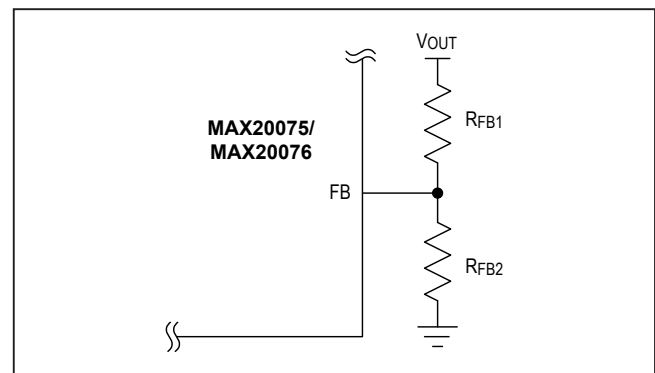
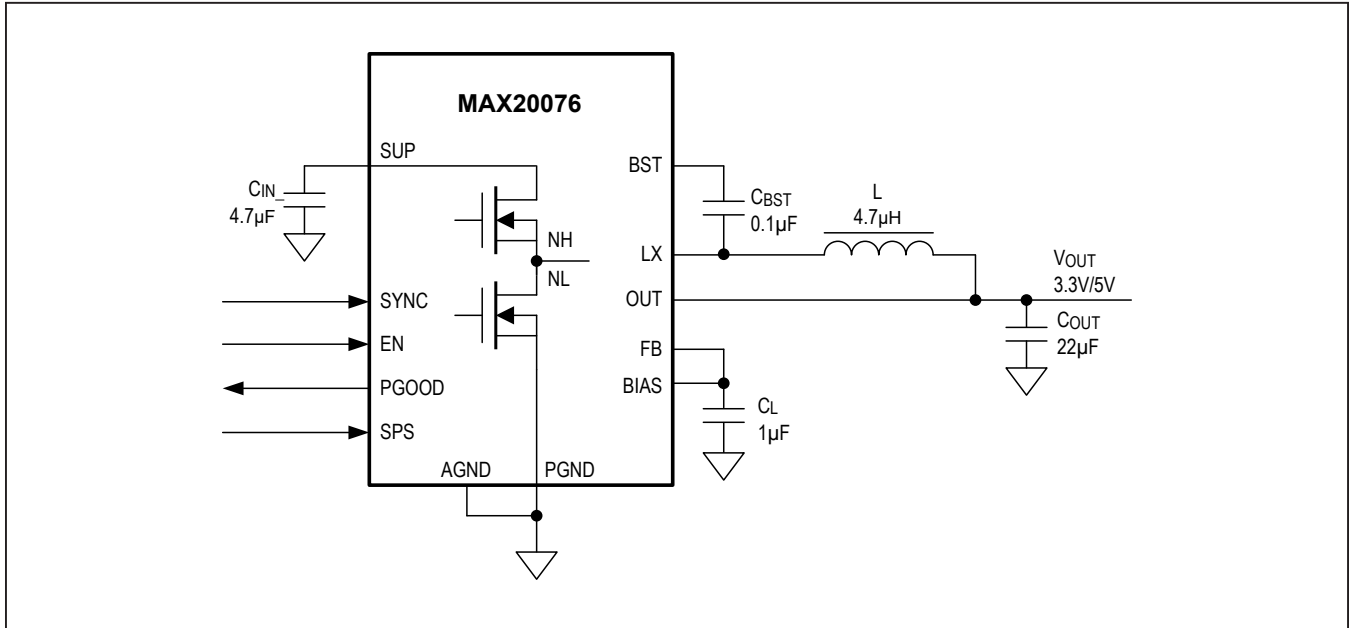
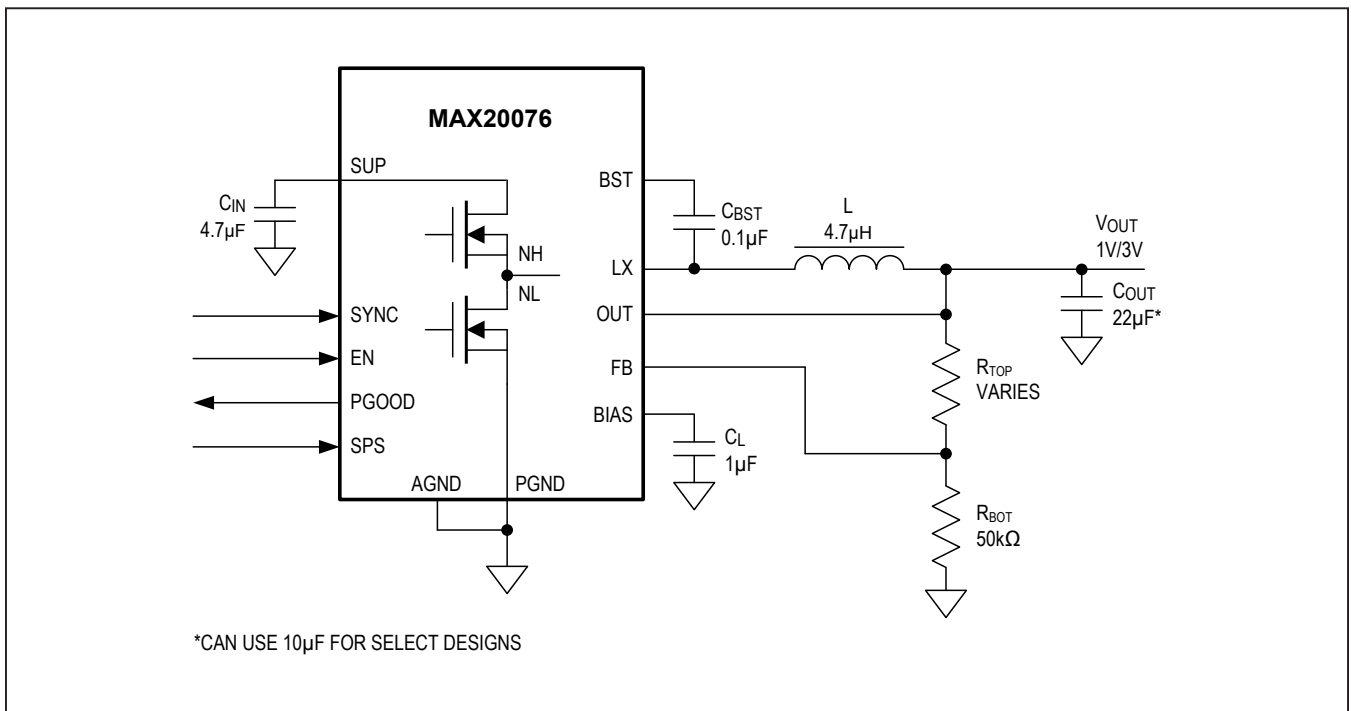
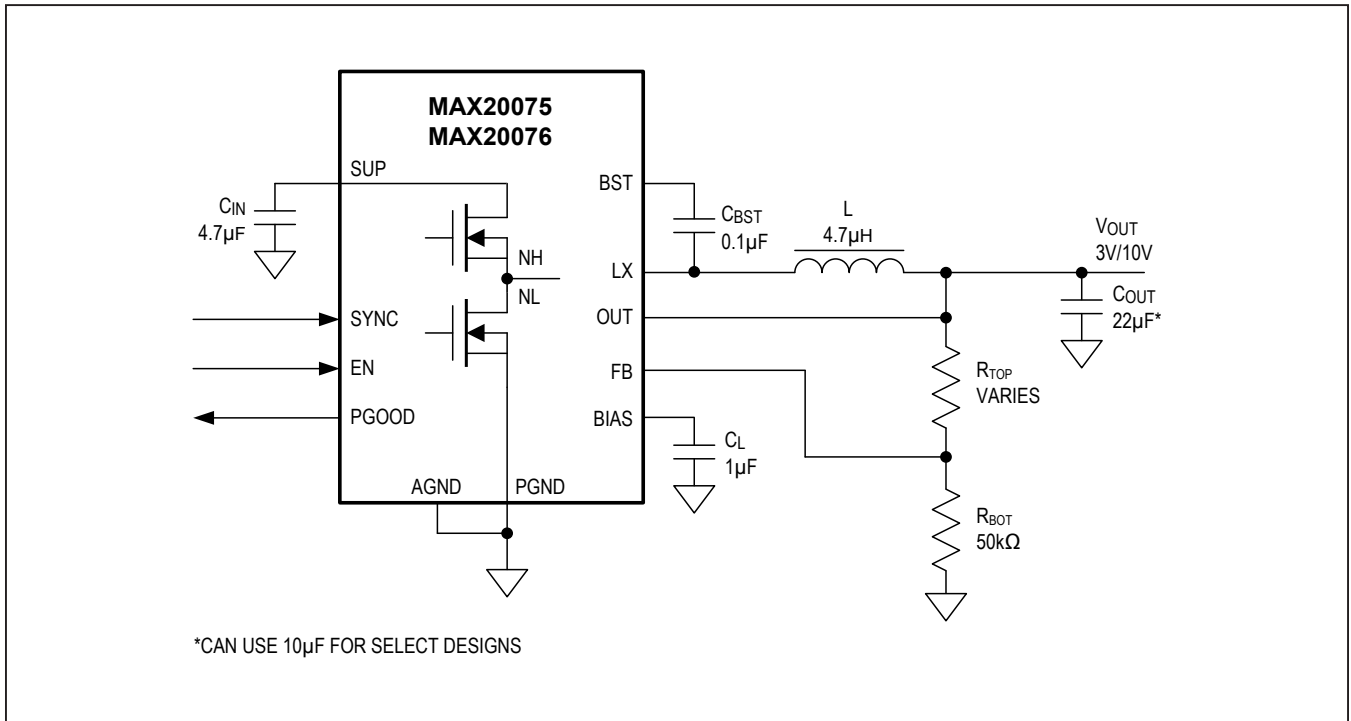

Figure 1. Connecting a Resistive Divider from Output to FB to AGND
Figure 2. MAX20076 3.3V/5V Fixed 1.2A Output in 12-Pin TDFN Package
Figure 3. MAX20076ATCC/V+ 1V/3V Variable 1.2A Output in 12-Pin TDFN Package
Figure 4. MAX20075/MAX20076 3V/10V Variable Output
Connect FB to BIAS for a fixed +5V/3.3V output voltage. To set the output to other voltages between 1V and 10V, connect a resistive divider from output (OUT) to FB to AGND (Figure 1). Select R_{FB2} (FB to AGND resistor) less than or equal to 500k Ω . Calculate R_{FB1} (OUT to FB resistor) with the following equation:
- 1) The input capacitor (4.7 μ F, see Figure 2, Figure 3, and Figure 4) should be placed right next to the SUP pin. Since the MAX20075/MAX20076/MAX25276 operate at 2.1MHz switching frequency, this placement is critical for effective decoupling of high-frequency noise from the SUP pins.
| 4 | 1/18 | Updated Package Information , Electrical Characteristics table, added new Figure 1 , added Setting the Output Voltage section, renumbered Figures 2–4 | 2, 3, 10, 13, 14 |